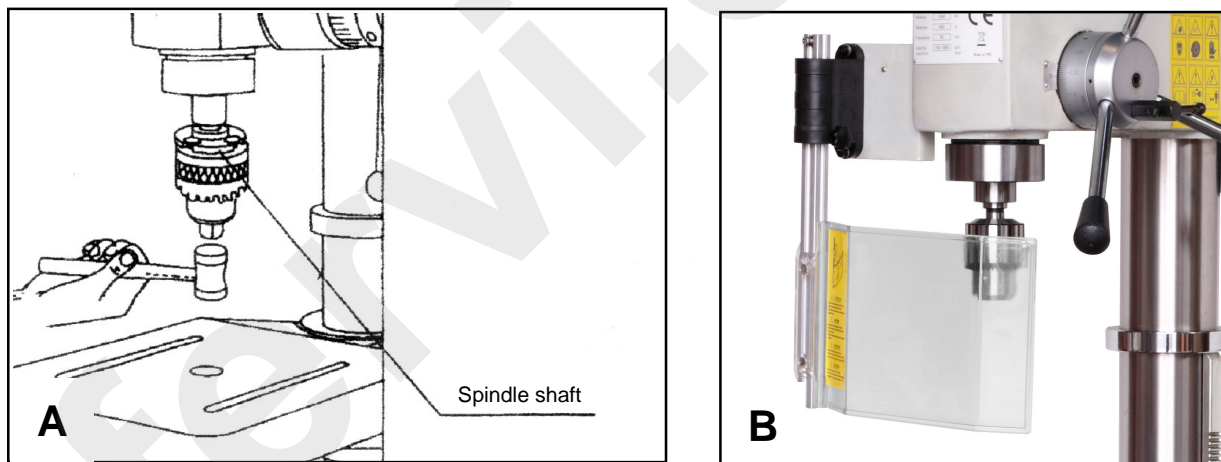

Figure 22 – Mounting the spindle (A: beat with a hammer – B: Overall view)
3. Insert the spindle shaft into the bore of the spindle taper, then beat the tip of the spindle with a hammer made of rubber or wood (as shown in figure 22).